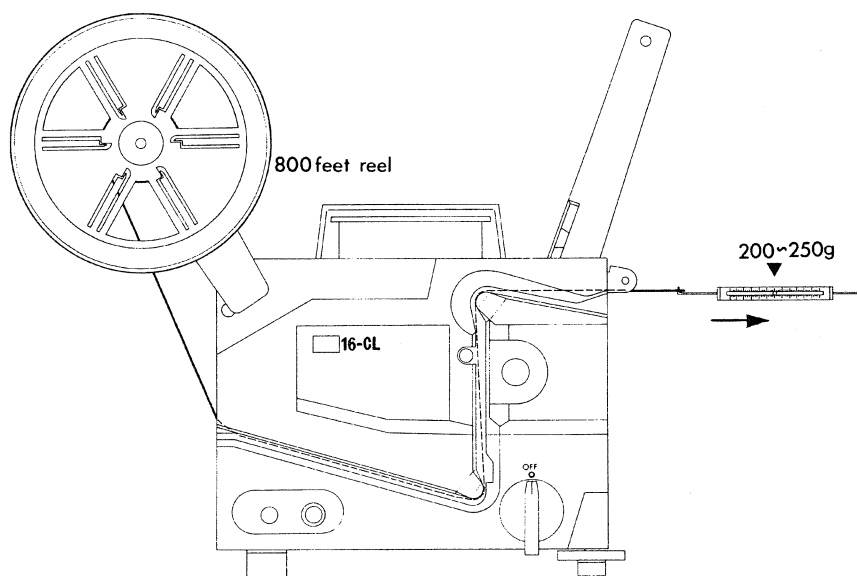

Fig. 19
- (1) As illustrated in Fig. 19, set Main Knob (Fig. 1-10) at "OFF" position. And wind film on attached 800 ft Reel through Channel, and turn the reel for about 10 times by hand.
- (2) While pulling out the film in the direction of the arrow illustrated in Fig. 19, measure the tension by a tension guage. The tension is to be 200-250gr.